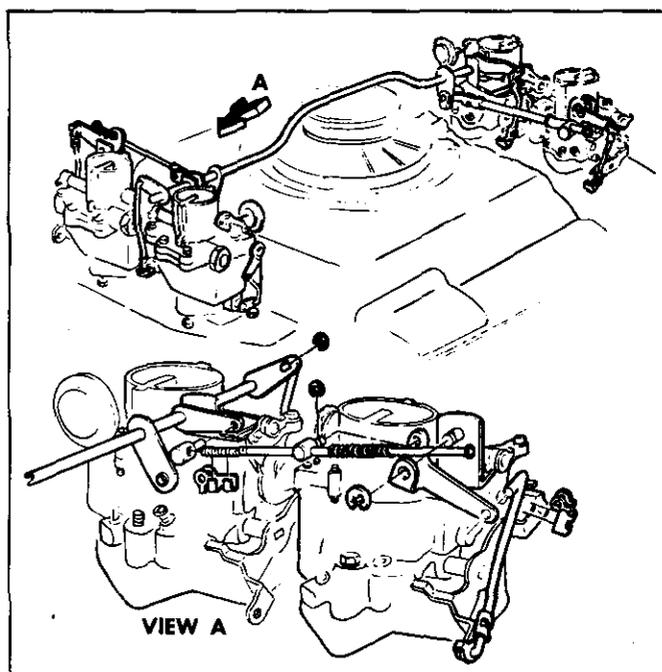

Fig. 4—Adjusting Secondary Carburetor Linkage
5. With choke valves closed (secondary throttles locked out) adjust secondary carburetor actuating rod so actuating spring is fully compressed and clevis will just enter hole in cross shaft lever (fig. 4), then back off adjustment 2 (Min.) to 3 (Max.) turns. Repeat operation on remaining actuating rod.